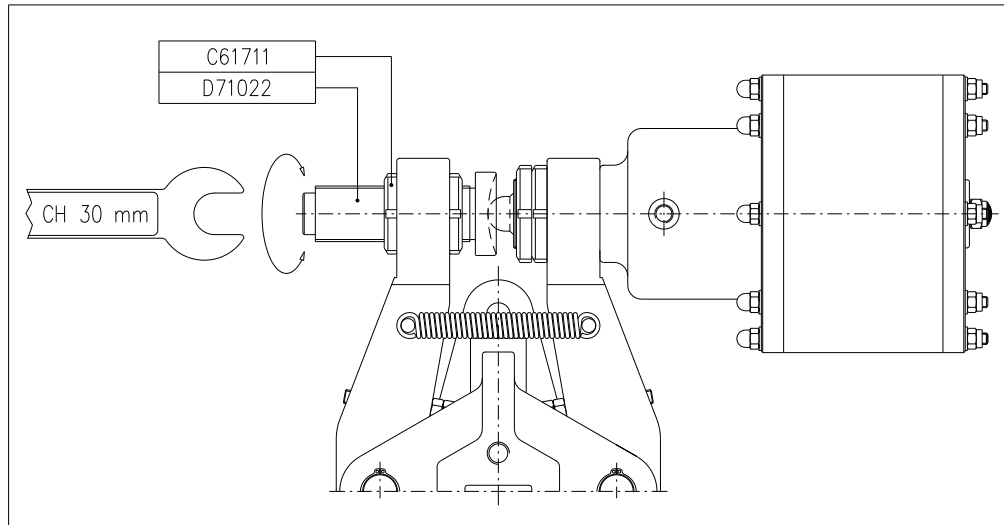

Figure 2
5. Adjust the play between the brake linings and the disc using the play adjuster D71022 (D71076 if with ON/OFF), and a n. 30 Allen key, rotating in the appropriate direction (Figure 2); when a play of 1 mm (with disc of thickness 25.4 mm) or 1.5 mm (with disc of thickness 40 mm) has been obtained between the disc and each brake lining, lock the adjuster in position screwing the ring nuts (C61711).
3. Rotate the play adjuster clockwise until the optimal play of 1 mm (with disc of thickness 25.4 mm) or 1.5 mm (with disc of thickness 40 mm) is obtained between the disc and each brake lining (Figure 2).